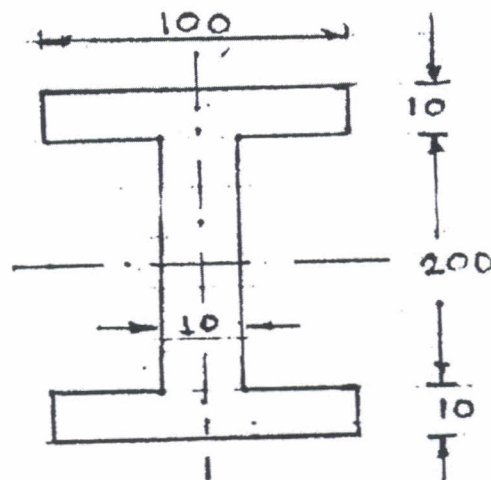

Fig.2
- Q9) a) Determine the shape factor for I section shown in fig.2